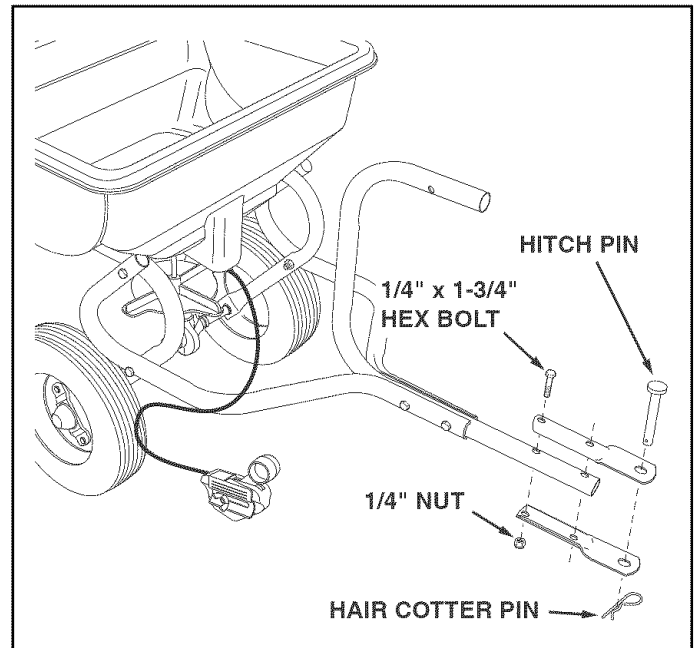

FIGURE 3
- Assemble the Hitch Brackets to the Hitch Control Tube using two 1/4" x 1-3/4" hex bolts and 1/4" nuts. **Tighten.** See figure 3.
- Assemble the hitch pin through the hitch brackets and secure with the 1/8" hair cotter pin. See figure 3.